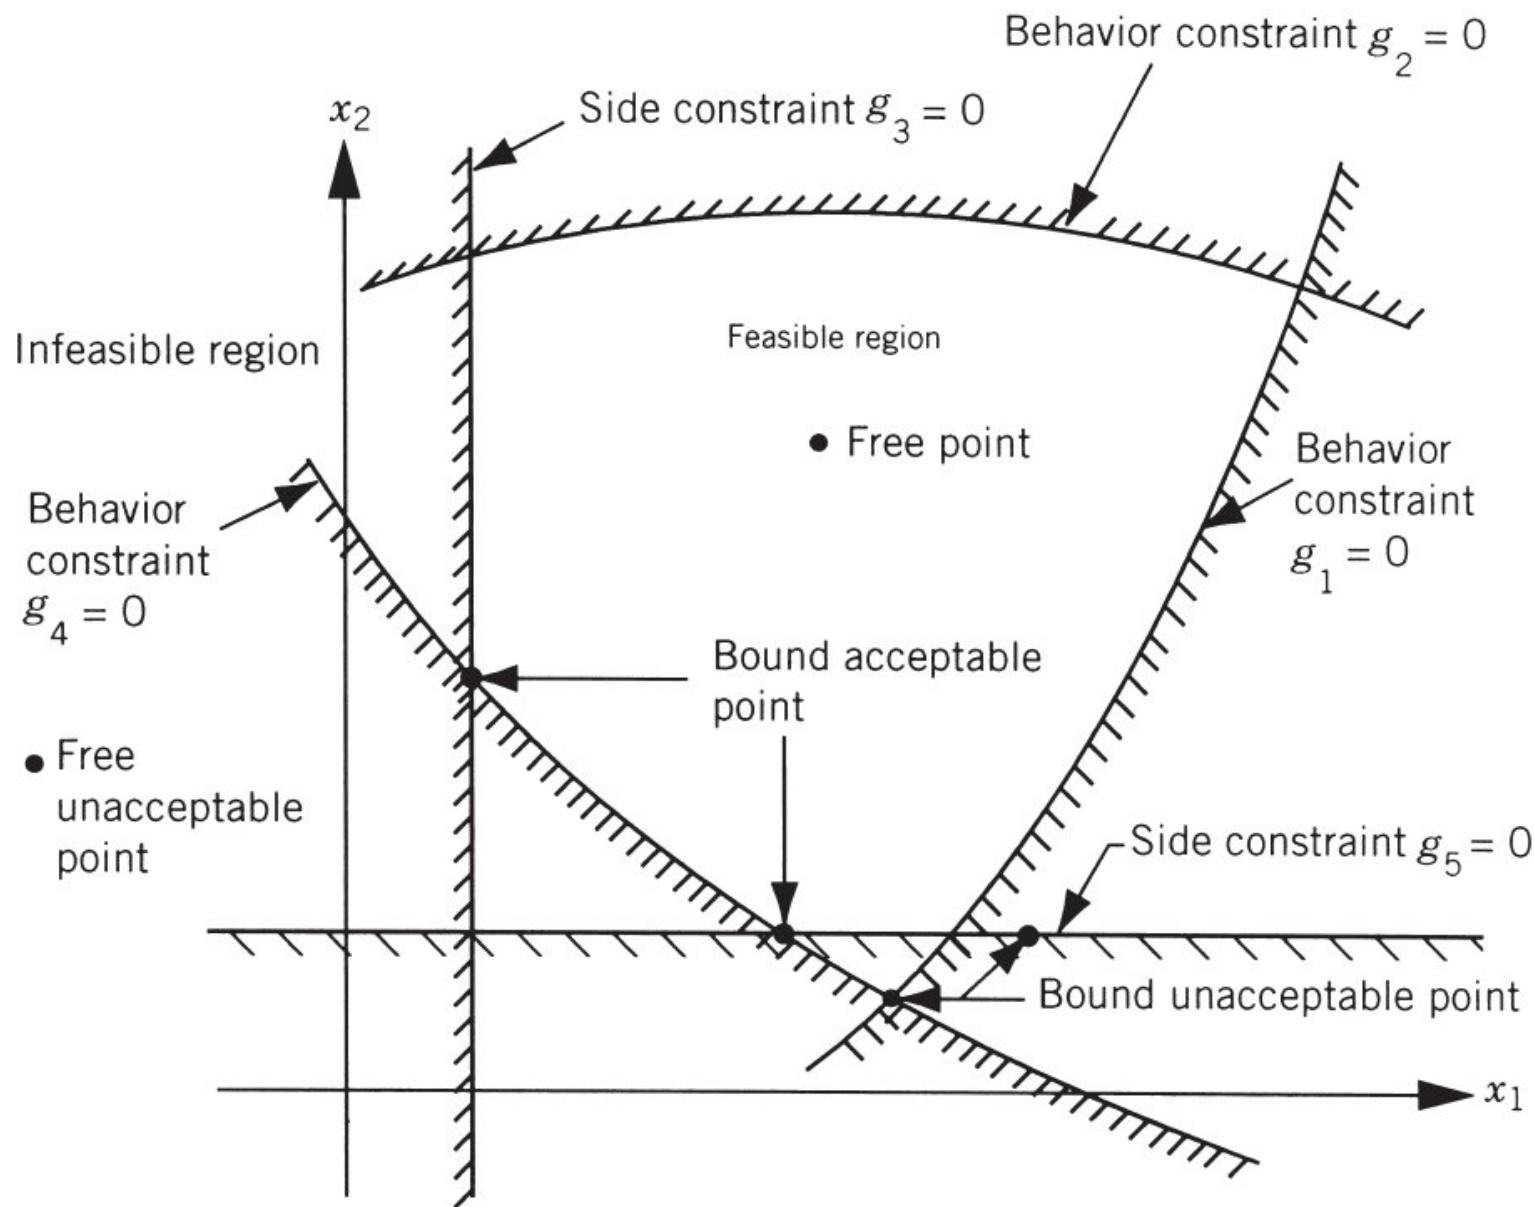

Figure 1.4 Constraint surfaces in a hypothetical two-dimensional design space.
- Figure 1.4 shows a hypothetical two-dimensional design space where the infeasible region is indicated by hatched lines.
All four types of points are shown in Fig. 1.4.